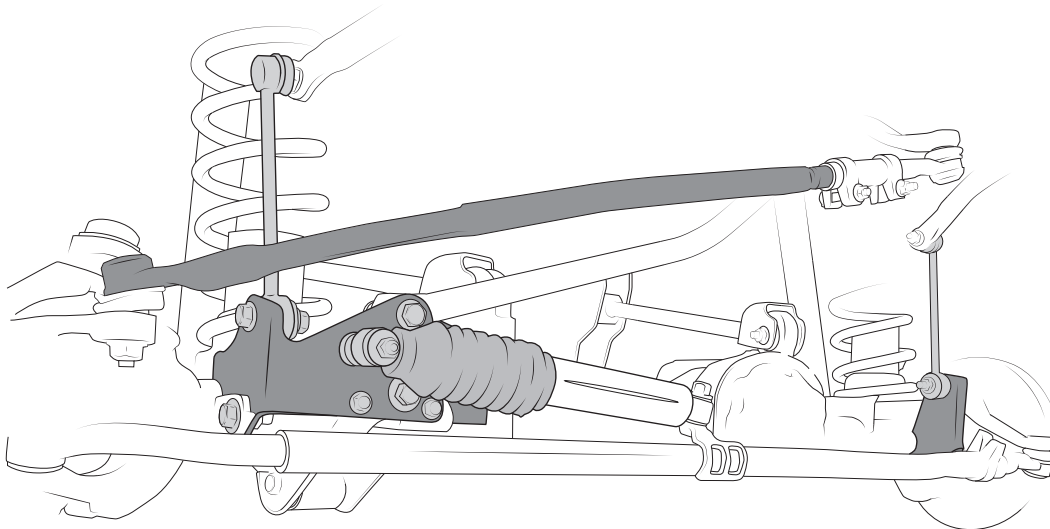

Figure 10
2. Insert original track bar bolt and flag nut through passenger-side front axle brackets and track bar but do not tighten at this time (refer to Fig. 10).
1. For each side attach the upper end stud to the sway bar in the same manner as the original front links had been (nut on frame side of bar). NOTE: The upper stud has a different thread than the rest of the M12 fasteners in the suspension—it is a “normal” pitch versus a “fine pitch.” Tighten to 40 ft/lbs. (refer to Fig. 10 for proper orientation.)